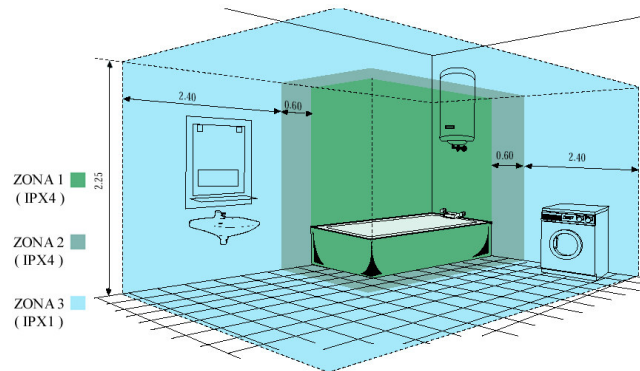

Figure 1: Bathroom zone classification
- The regulator may be in class I or II. In the bathroom it can be installed in zone 3 (see figure 1) so long as the control device is out of the reach of people using the shower or bath tub.